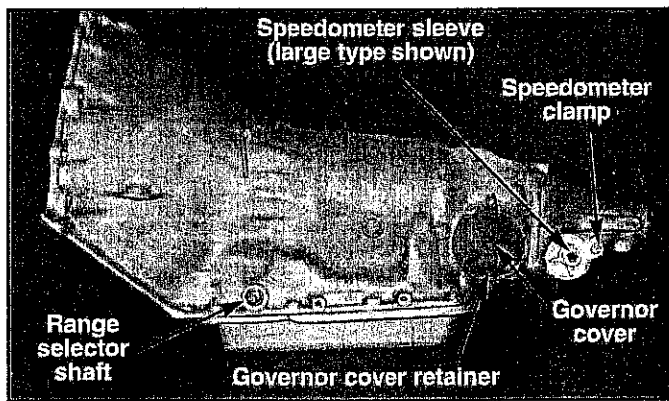

FIGURE 2
STEP 8. Remove speedometer sleeve retaining bolt and clamp (2 wheel drive models) from extension housing. (See Fig. 2) Pull speedometer sleeve and driven gear out of transmission. Remove and discard O-ring and inner seal on sleeve. Do not lose small retaining clip. Put sleeve, clip, and gear in oil pan.
STEP 9. Remove governor cover retainer. (See Fig. 2) Use a screwdriver to carefully pry cover off case. Be careful not to bend cover. Remove and discard O-ring. Remove governor by pulling straight out. Governor will rotate slightly during removal. Put governor in oil pan.